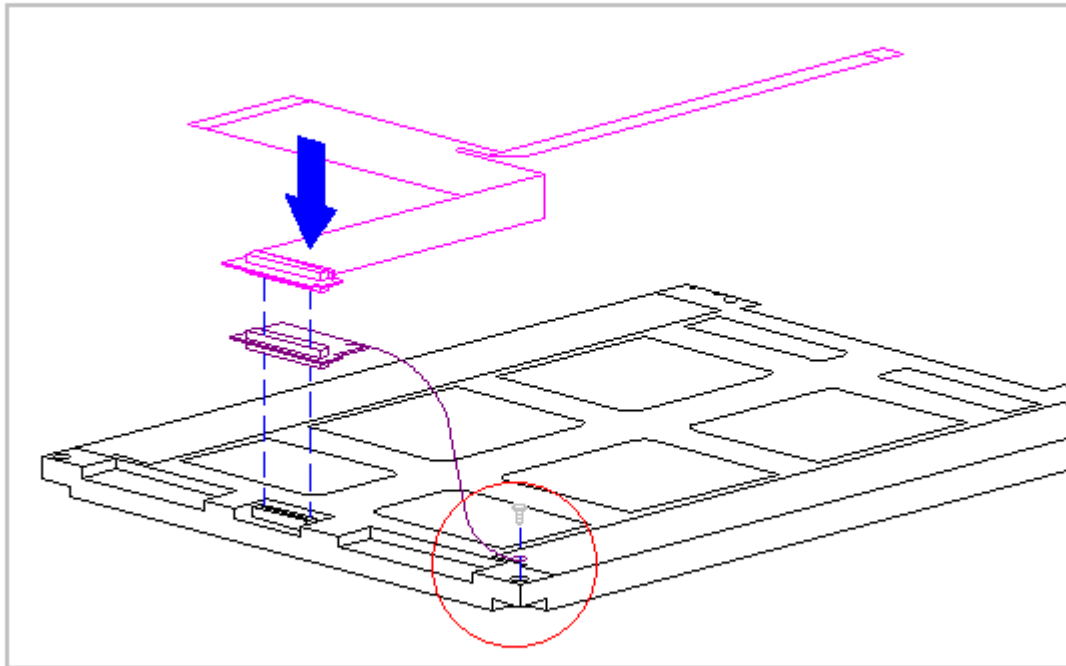

Figure 3-151. Replacing the Display Cable to the CSTN (10.4 inch) Panel (Models 420 and 430)
1. Position the display ground cable in the display enclosure, aligning the cable with the bosses in the display enclosure (Figure 3-151).
2. If the CSTN panel is manufactured by Sharp complete this step. If not, continue to step 4. Connect the display cable to the XOVER Board. Then connect the XOVER Board to the connector on the back of the CSTN (10.4 in) panel. Attach the ground wire of the XOVER Board to the display panel as indicated in (Figure 3-151).